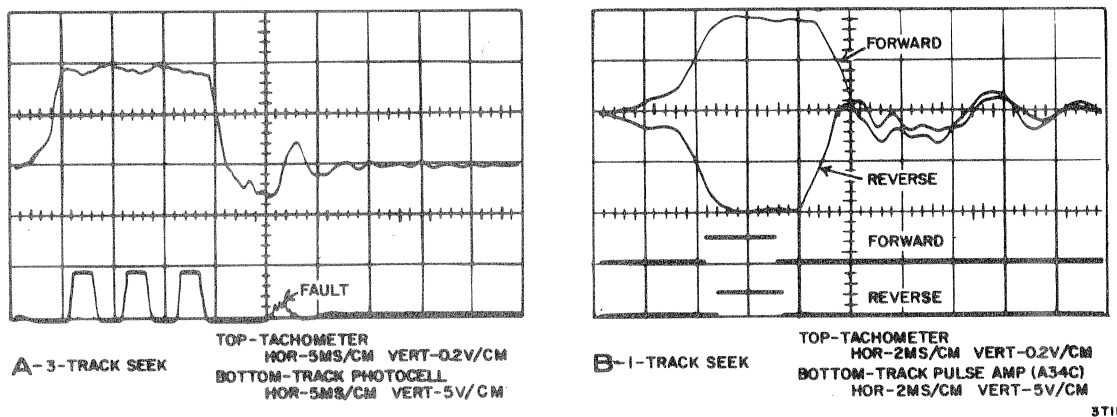

Figure 6-19. Dynamic Track Photocell Adjustment
- c. Refer to Figure 6-19, part A, for oscilloscope settings. Each of the track pulses should swing between a low voltage of -0.6 ± 0.4 vdc and a high voltage of $+5.0 \pm 0.5$ vdc. There should be no track pulses of less amplitude during the settle time (as shown by FAULT on Figure 6-19, part A). If the extra pulses do exist, they will be corrected during the following steps.
- g. Refer to Figure 6-19, part B, for oscilloscope settings and compare waveforms. The track pulses should be approximately coincidental (leading and trailing edges of pulse vertically aligned).
- j. When the oscilloscope trace is similar to Figure 6-19, part B, tighten the three locking screws in the photocell mounting plate. Make certain that the trace does not change.